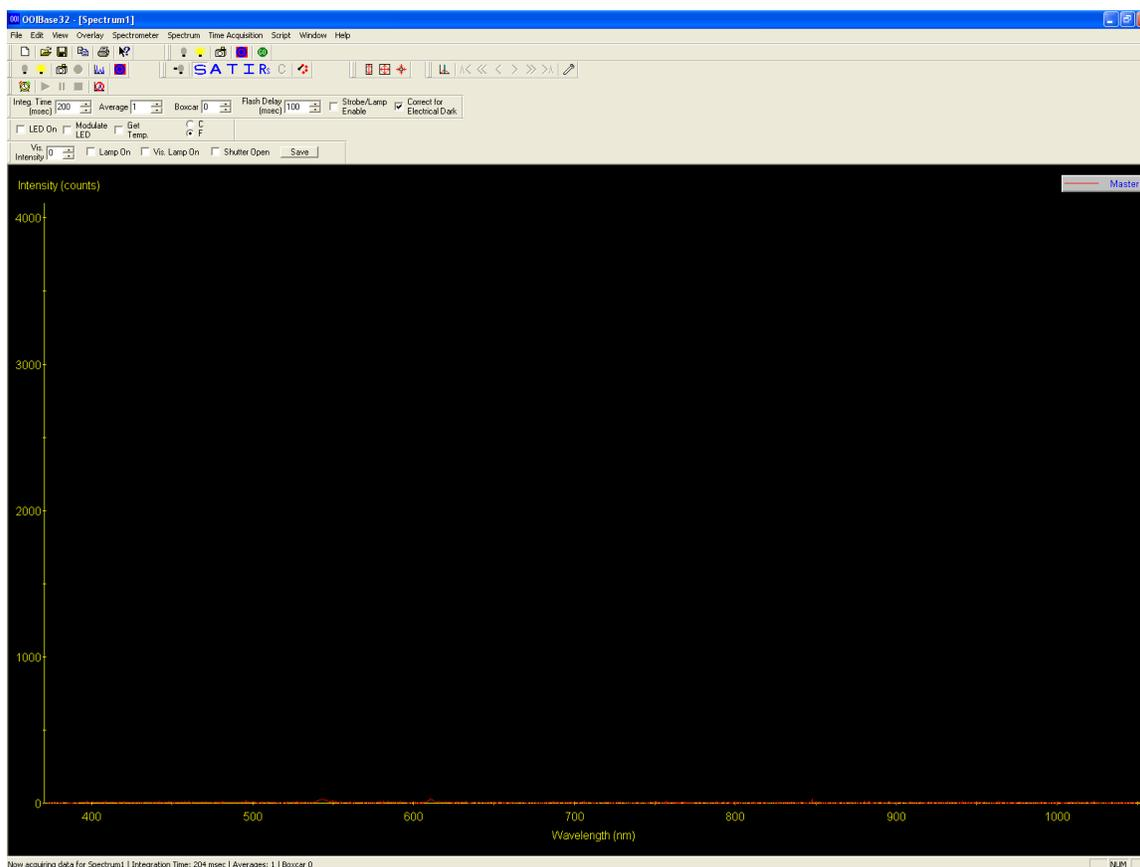

Figure 3
12. Click the grey light bulb icon to save the background, “dark”, signal. Figure 3 depicts a sample dark signal.